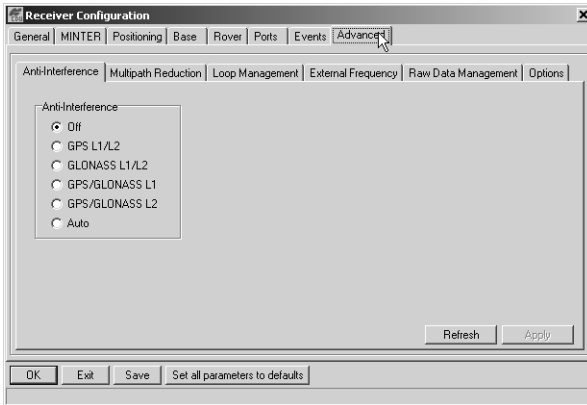

Figure 2-9. Receiver Configuration – Advanced Tab
- Click the **Advanced** tab on the Receiver Configuration screen (Figure 2-9).